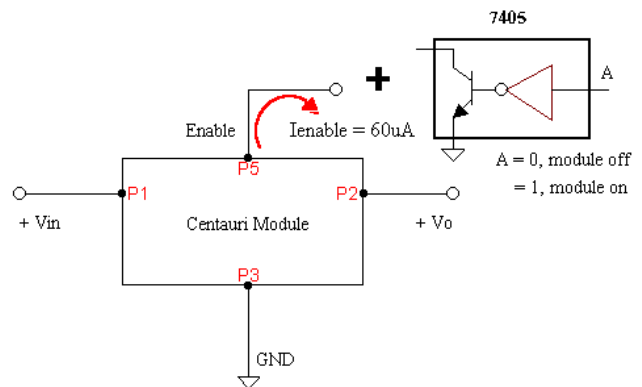

Figure 3. Output Voltage Enable function diagram.
9. Refer to Figure 3 for the Output Voltage Enable configuration.
For TTL compatibility, Figure 3 shows a 7405 open collector inverter IC utilized to function the Enable feature. Other common chips that can do the function are 74S05; 74HCT05; non-inverting - 7407; 74S07; 74HC07. If SMT packaging is preferred, Fairchild's Tiny Logic NC7SZ05 or TI's Little Logic SN7SLVC1G06 comes in SOT23 or SC70 packages.